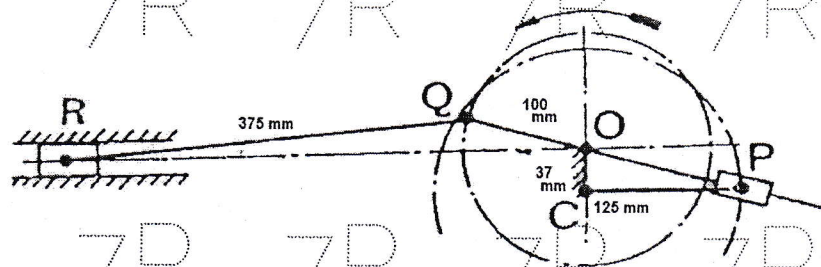

Figure: 2
5. The mechanism of a whitworth quick return motion is shown in figure 2. The distance between the fixed centres O and C is 37 mm. The driving crank CP is 125 mm long, the slotted link OQ is 4 in long and the connecting link QR is 375 mm long. If CP makes 60 rpm, find for the given position the acceleration of R. What is the acceleration of R when it occupies the same position but is on the return stroke? [10]